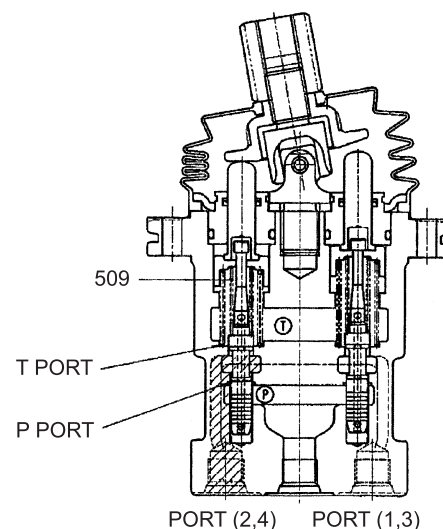

Fig. 24-61 When the lever is held
(3) Lever held (See Fig. 24-61)